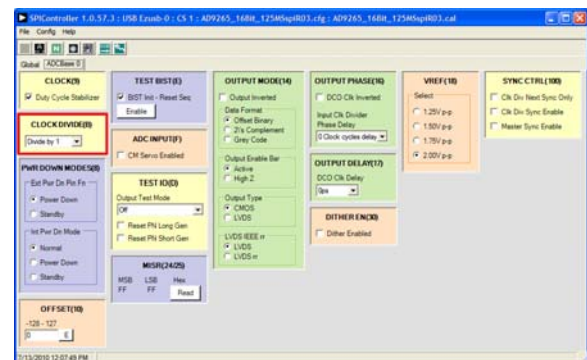

Figure 10. SPIController, CLOCK DIVIDE(B) Box
3. In the **ADCBASE 0** tab of the **SPIController** window, find the **CLOCK DIVIDE(B)** box (see Figure 10). If using the clock divider, use the drop-down box to select the correct clock divide ratio, if necessary. See the appropriate part data sheet; the AN-878 Application Note, *High Speed ADC SPI Control Software*; and the AN-877 Application Note, *Interfacing to High Speed ADCs via SPI*, for additional information.
- Note that other settings can be changed on the **ADCBASE 0** tab (see Figure 10). See the appropriate part data sheet; the AN-878 Application Note, *High Speed ADC SPI Control Software*; and the AN-877 Application Note, *Interfacing to High Speed ADCs via SPI*, for additional information on the available settings.